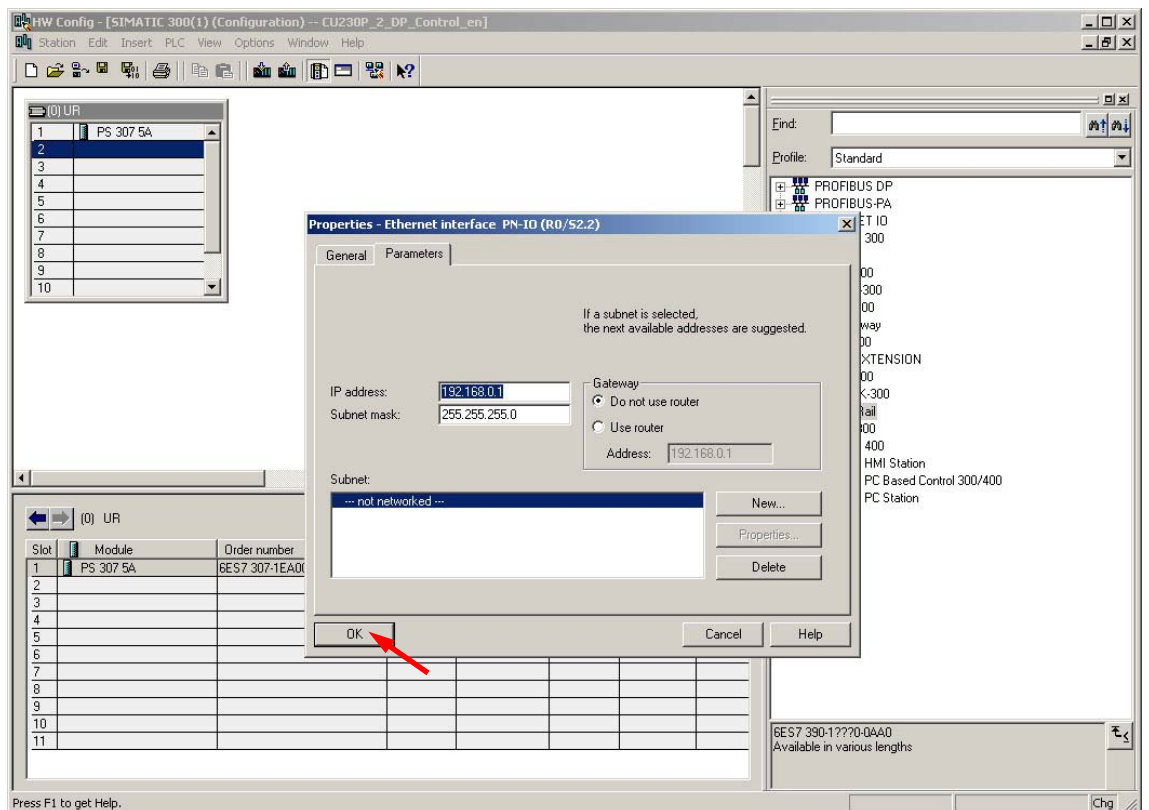

Figure 8-2 Inserting the CPU
- When you insert the CPU the window for the settings of the Ethernet interface opens. Close the window with “OK” (Fig. 8-2).